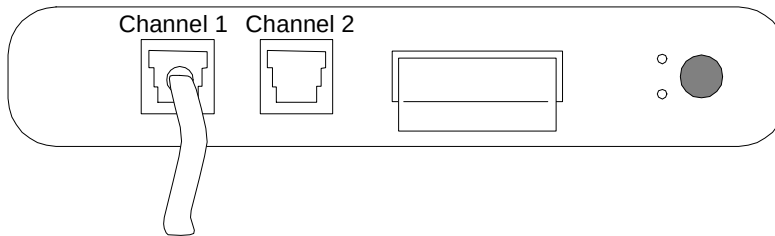

Figure 2-4 Analog Input Connections on the Front Panel
1. Insert one end of an analog cable into the Channel 1 connector on the e-SAT/IN module. Refer to Figure 2-4.